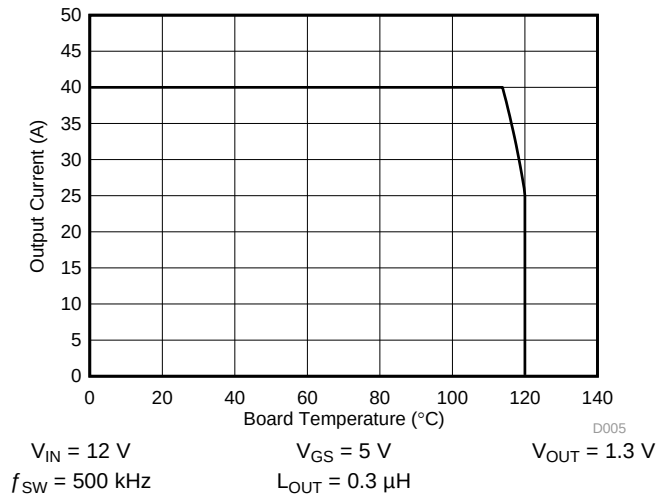

Figure 3. Typical Safe Operating Area (SOA)
$T_J = 125^\circ\text{C}$, unless stated otherwise. The typical power block system characteristic curves and Figure 3 are based on measurements made on a PCB design with dimensions of 4 in (W) $\times$ 3.5 in (L) $\times$ 0.062 in (H) and 6 copper layers of 1-oz copper thickness. See Application and Implementation section for detailed explanation.
The SOA curves in the CSD86356Q5D data sheet provides guidance on the temperature boundaries within an operating system by incorporating the thermal resistance and system power loss. Figure 3 outline the temperature and airflow conditions required for a given load current. The area under the curve dictates the safe operating area. All the curves are based on measurements made on a PCB design with dimensions of 4 in (W) × 3.5 in (L) × 0.062 in (T) and 6 copper layers of 1-oz copper thickness.